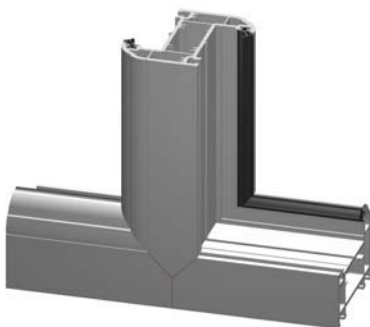

Fig 2
1.3 Please note that when ordering profile for example, a typical internally beaded top over fixed window, foiled on the external face only, the order must contain some outer frame profile foiled on side 1 and some on side 2 in order to accommodate the Reverse Butt Weld joint (See Drg Figure 2)